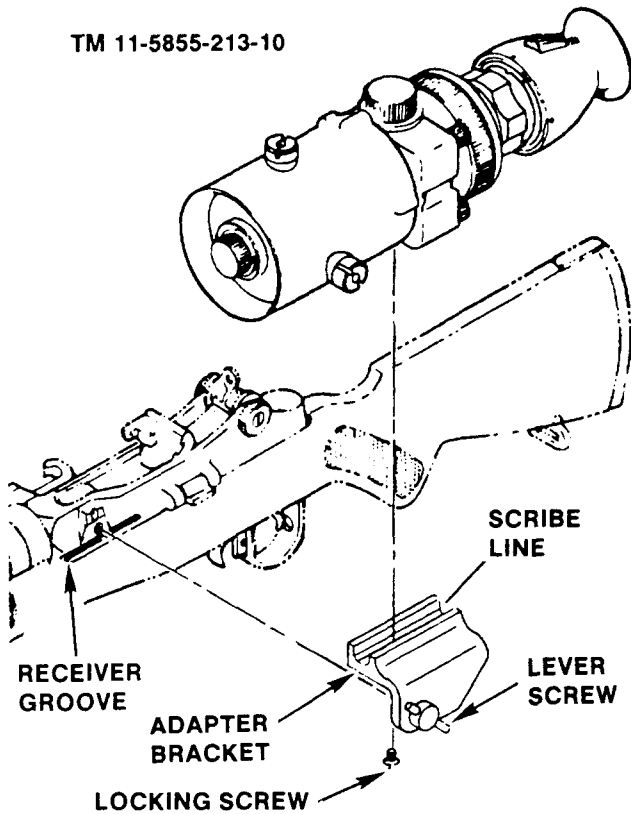

Figure 2-16. Installation of Mounting Bracket Assembly, M14.
a. M14 RIFLE (fig. 2-16).
(1) Position the sight in the groove on top of the M14 adapter bracket so the vertical scribe line on the bracket is aligned with the scribe line on the sight mounting adapter.
(2) Tighten the hexagonal head locking screw firmly with the socket head screw key (T-handle hex, wrench) provided and stored with the M14 adapter bracket, to secure the sight to the bracket.
(3) Place the sight and bracket against the left side of the M14 receiver and align the bracket with the horizontal and vertical grooves on the side of the receiver.
(4) Tighten the lever screw firmly to secure the adapter bracket to the rifle.